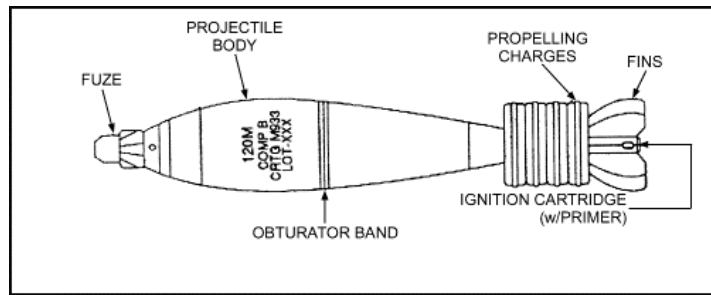

Figure 7-12. M933 HE cartridge.
- (1) Identification: White with black markings.
- (2) Components: M776 (DM93) mechanical time superquick (MTSQ) fuze.
- (3) Maximum range: 6,200 meters at charge 8; 7,100 meters at charge 10.
- (4) Remarks: Contains candle and parachute used for illumination (weight to 29 pounds [13.18 kilograms]); burn time--46 to 60 seconds; candle power--1,000,000.
d. M933 HE Cartridge (Figure 7-12).